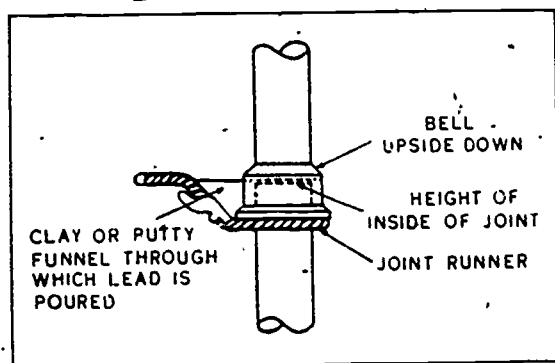

Figure 4-18. Pouring an upside-down joint.
**Pouring upside-down lead joints.** Sometimes, during the construction of a vent stack, you may have to pour lead into an upside-down joint. This type of joint is permissible when it is located above the drainage lines to the stack. The manner in which lead is poured into an upside-down joint is illustrated in figure 4-18. To force the lead to flow up into the hub, a clay or putty funnel is formed above the pouring opening in the asbestos joint runner. The funnel must be deep enough to raise the level of the lead inside the joint. You must exercise extreme caution when you pour this type of joint to prevent serious burns to yourself from splattering or falling lead. The putty or clay pouring funnel must be dry and free of moisture before the lead is poured to prevent blowout of the hot lead from steam. After the lead cools, the joint runner is removed, and the lead is calked in the same manner as that used for other joints.